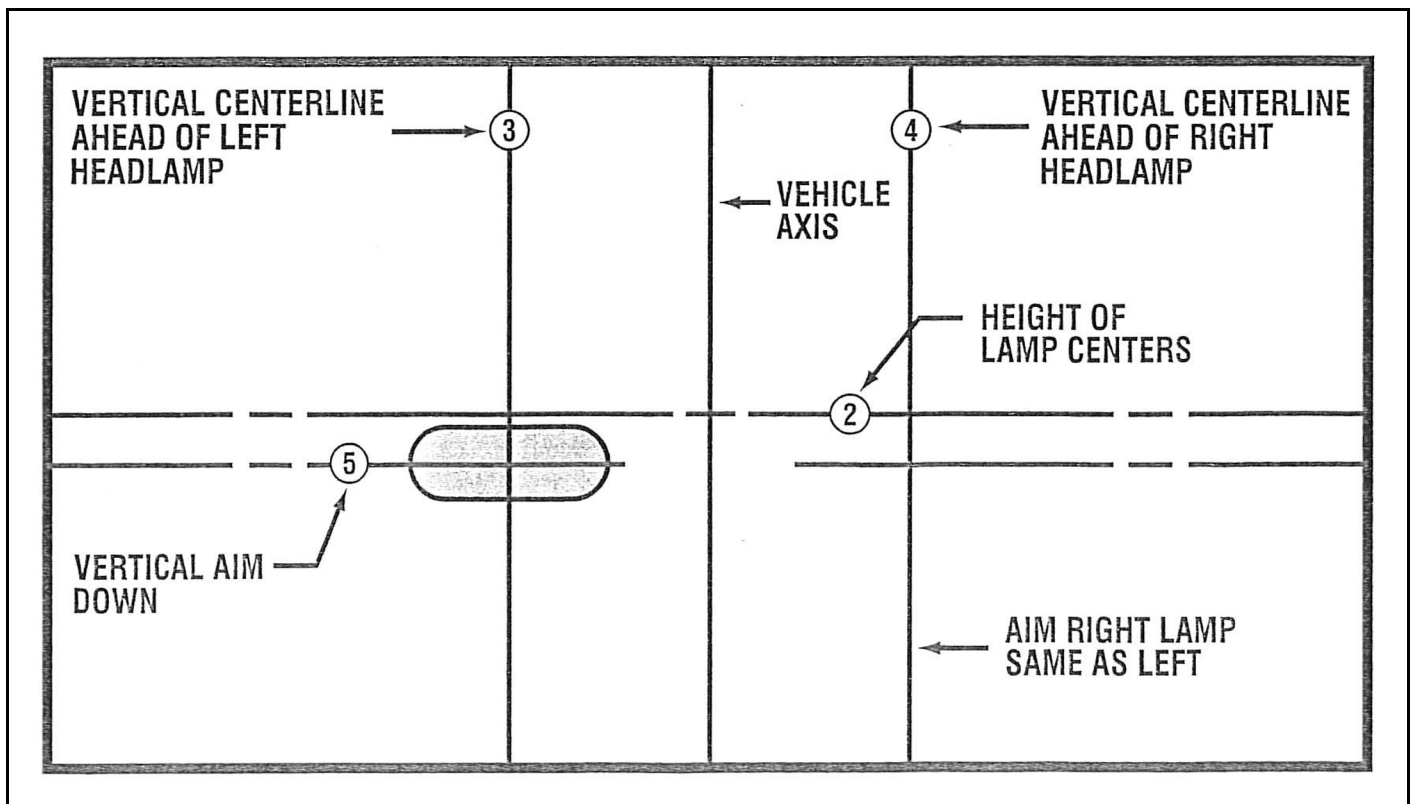

Figure 2-11 High-Intensity Zone (Shaded Area of a Properly Aimed Upper Beam on the Aiming Screen 25 ft (7.6 m) in Front of Vehicle
1. Activate the snow plow lamp HIGH beams so that they illuminate toward the wall (See Figure 2-11).